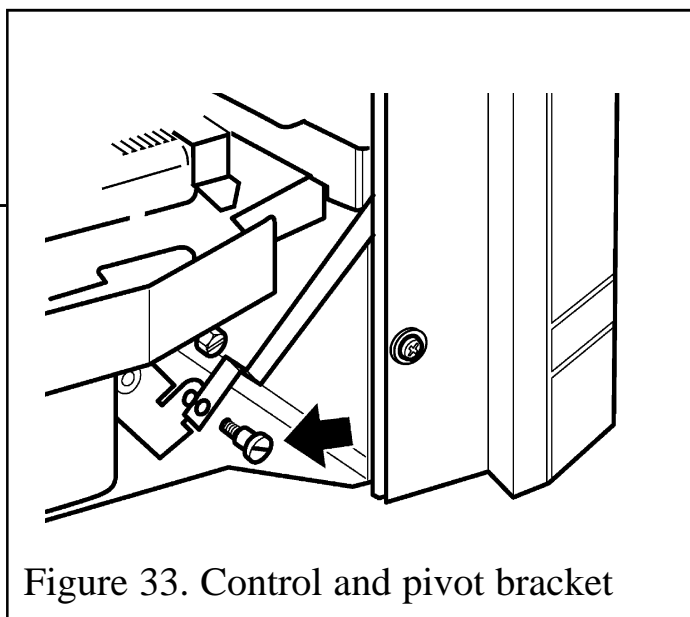

Figure 33. Control and pivot bracket
4. Align the hole near the bottom of the control linking bar with that in the control pivot bracket. Join them with the knurled shouldered screw (See figure 33). Make sure that the isolating valve is closed. Slide the control button fully from top to bottom and back to make sure that the slide and pivot mechanisms move smoothly. Note that some resistance should be felt when the slide button reaches the "burner fully on" position